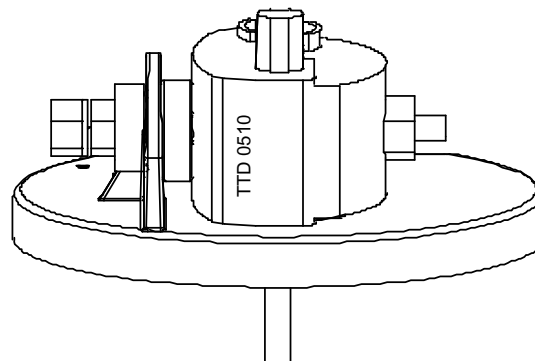

Figure 1. Standard voltage connector
The Low Voltage (LV) AGInode pole top mounting option uses insulation-piercing voltage connectors to contact the system voltages. The standard connectors shipped with the LV AGInode are rated for cable sizes #4 AWG through 2/0 (see Figure 1). These cable sizes are commonly used on distribution transformers up to 50 kVA.